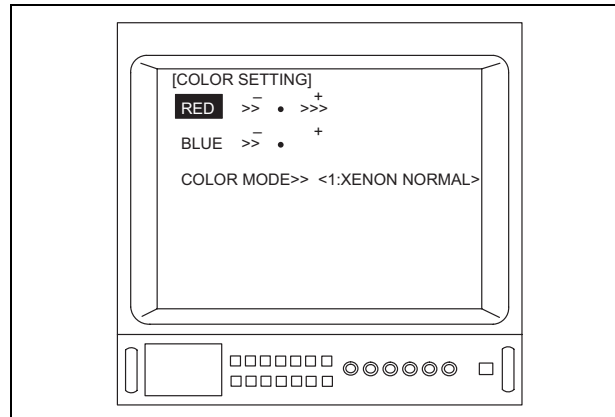

Figure 5.24
7. Depress the menu switch “” or the “Enter” key on the keyboard to adjust the color tone (see Figure 5.24).
If the color tone is increased above the midpoint, the menu is displayed shown in Figure 5.24 and “>>>” flashes.
- When the color tone level is at a maximum/minimum level, “>>>”/“<<<” is lit (see Figure 5.24).